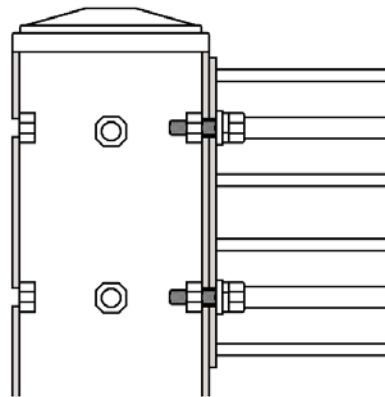
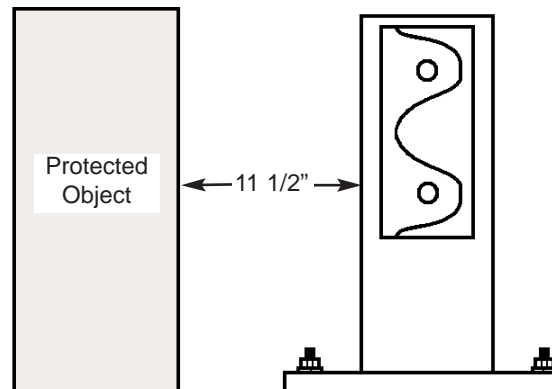

Figure 1 - Cut-away View
Figure 2 - Rail Placement
5. Using the provided hardware, bolt the rails into place on the columns as seen in Figure 1. The front of the rail with the Handle-It logo should face away from the protected object as seen in Figure 2.